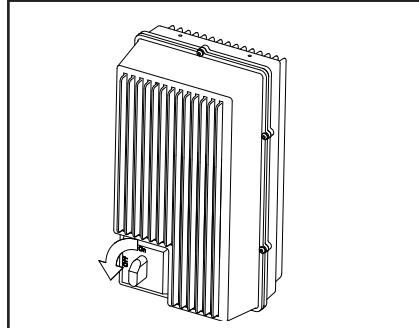

Fig. 8
2. Interrupt the master switch. (Fig.8)
5. Remove the filter (A) and place it in a descaling solution until the scale is dissolved.